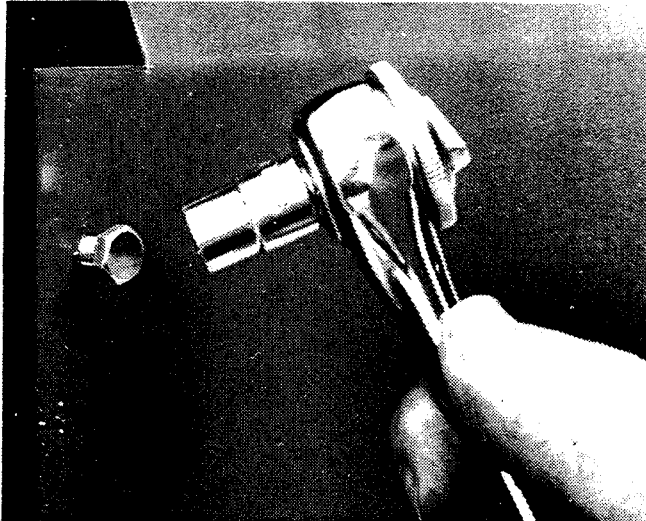

Figure 1
1. Power source side is removed by bolts using 7/16" socket and ratchet. The wire drive side is simply opened up by turning finger fasteners 1/4 turn. See Figure 1